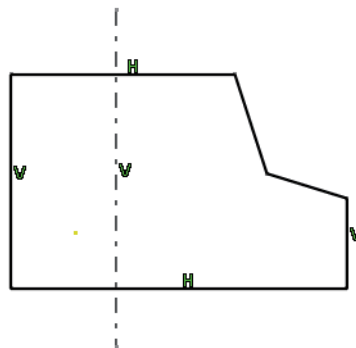

Fig 6-3 Axis Intersecting the Profile
- ⑦ The axis cannot intersect the profile. (Refer to Fig 6-3.)
- ⑧ Values in the **First angle** and **Second angle** should not exceed 360° .